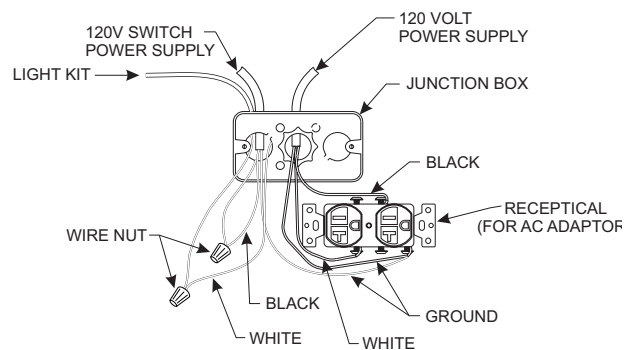

Figure 31
- Run 14/2 Nm-B with ground or 12/2 Nm-B with ground wire through the electrical access panel into the Junction box. Secure wiring with the wire connector as shown. Attach the black wire to the receptacle, and the white wires to the receptacle as shown in **Figure 31**. Secure the incoming ground wire and green receptacle ground wires under the green ground screw provided in the junction box. **NOTICE:** If an LK5 Accent Light Kit is to be installed, a separate 120V line will be needed to connect the light kit wiring directly to a wall switch. **See Figure 31.**
- If installing the LK5 Accent Light Kit, then remove the 7/8" diameter knockout in the side of the junction box, install the 7/8" diameter protective grommet, and connect the wiring with wire nuts as shown in **Figure 31**.